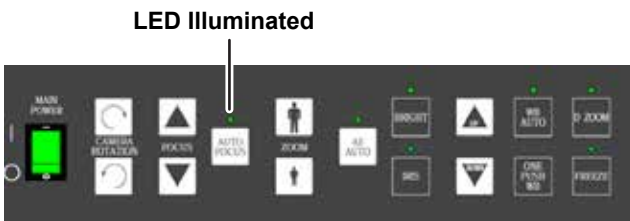

Figure 6. Camera Control Unit (Front)
- Confirm the **AUTO FOCUS** LED on the camera control is illuminated on the face of the CCU (Figure 6). This indicates that there is a proper connection between the installed camera and the CCU.